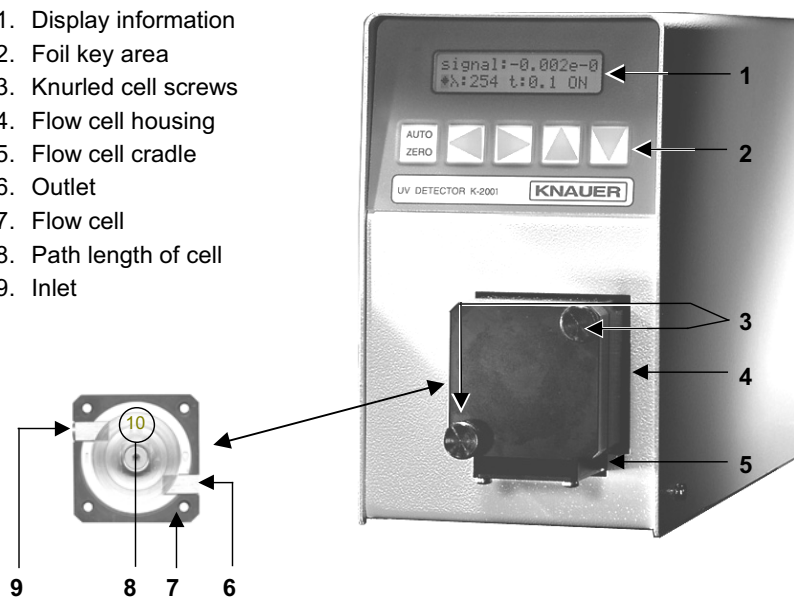

Fig. 2
The foil key area (2) in Fig. 2 „Front panel of the Filter-Photometer K-2001“ consists of an AUTOZERO key and four arrow keys.
After switching ON the display (item 1 in Fig. 2 on page 8) presents for a short time information's concerning the instrument version and number:
This instruction refers to the Filter-Photometer K-2001 without fiber optical connectors. Compare Fig. 2 „Front Panel Elements of Photometer and Flow Cell“ on page 8.
This instruction refers to the Filter-Photometer K-2001. Compare Fig. 2 „Front Panel Elements of Photometer and Flow Cell“ on page 8.